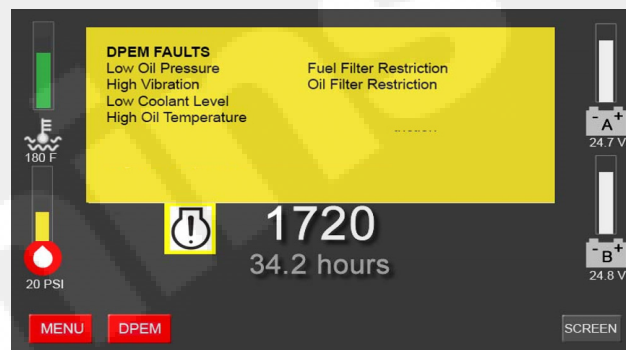

Figure 2-12 DPEM Fault Screen (Sample)
- **From the FPDP** - As shown in Figure 2-12, the warning symbol will illuminate and the overlay will activate in yellow with the text of the active fault.